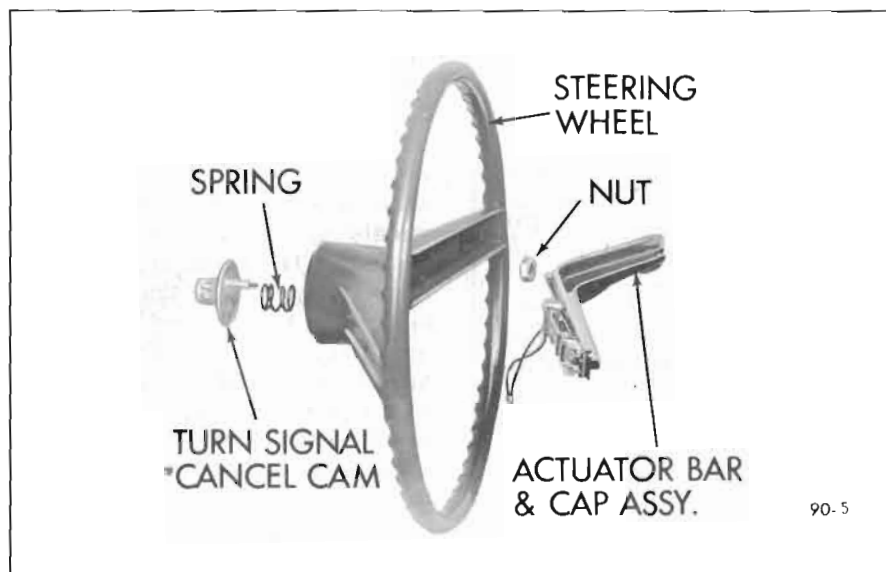

Figure 90-5—Deluxe Steering Wheel Installation (Non-Tilt Column)
3. On 43000 and 44000 Series cars, remove actuator bar cap and pull out lead plug in steering wheel. See Figure 90-5.